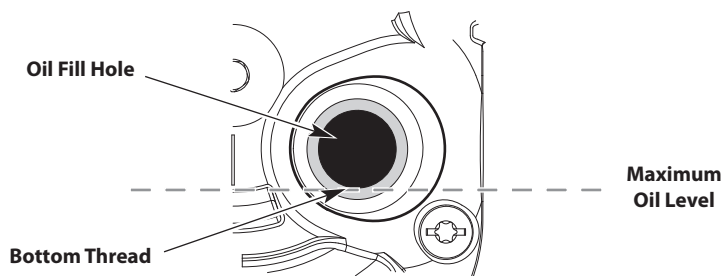

Fig. 24
5. Look into the oil fill hole; use a flashlight if necessary. **The oil level should just touch the bottom thread of the oil fill hole** (Fig. 24).